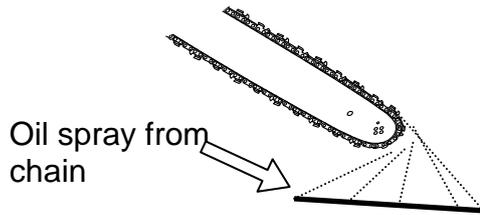

Figure 6
- After starting the motor, observe if chain oil is sprayed off (Fig.6).